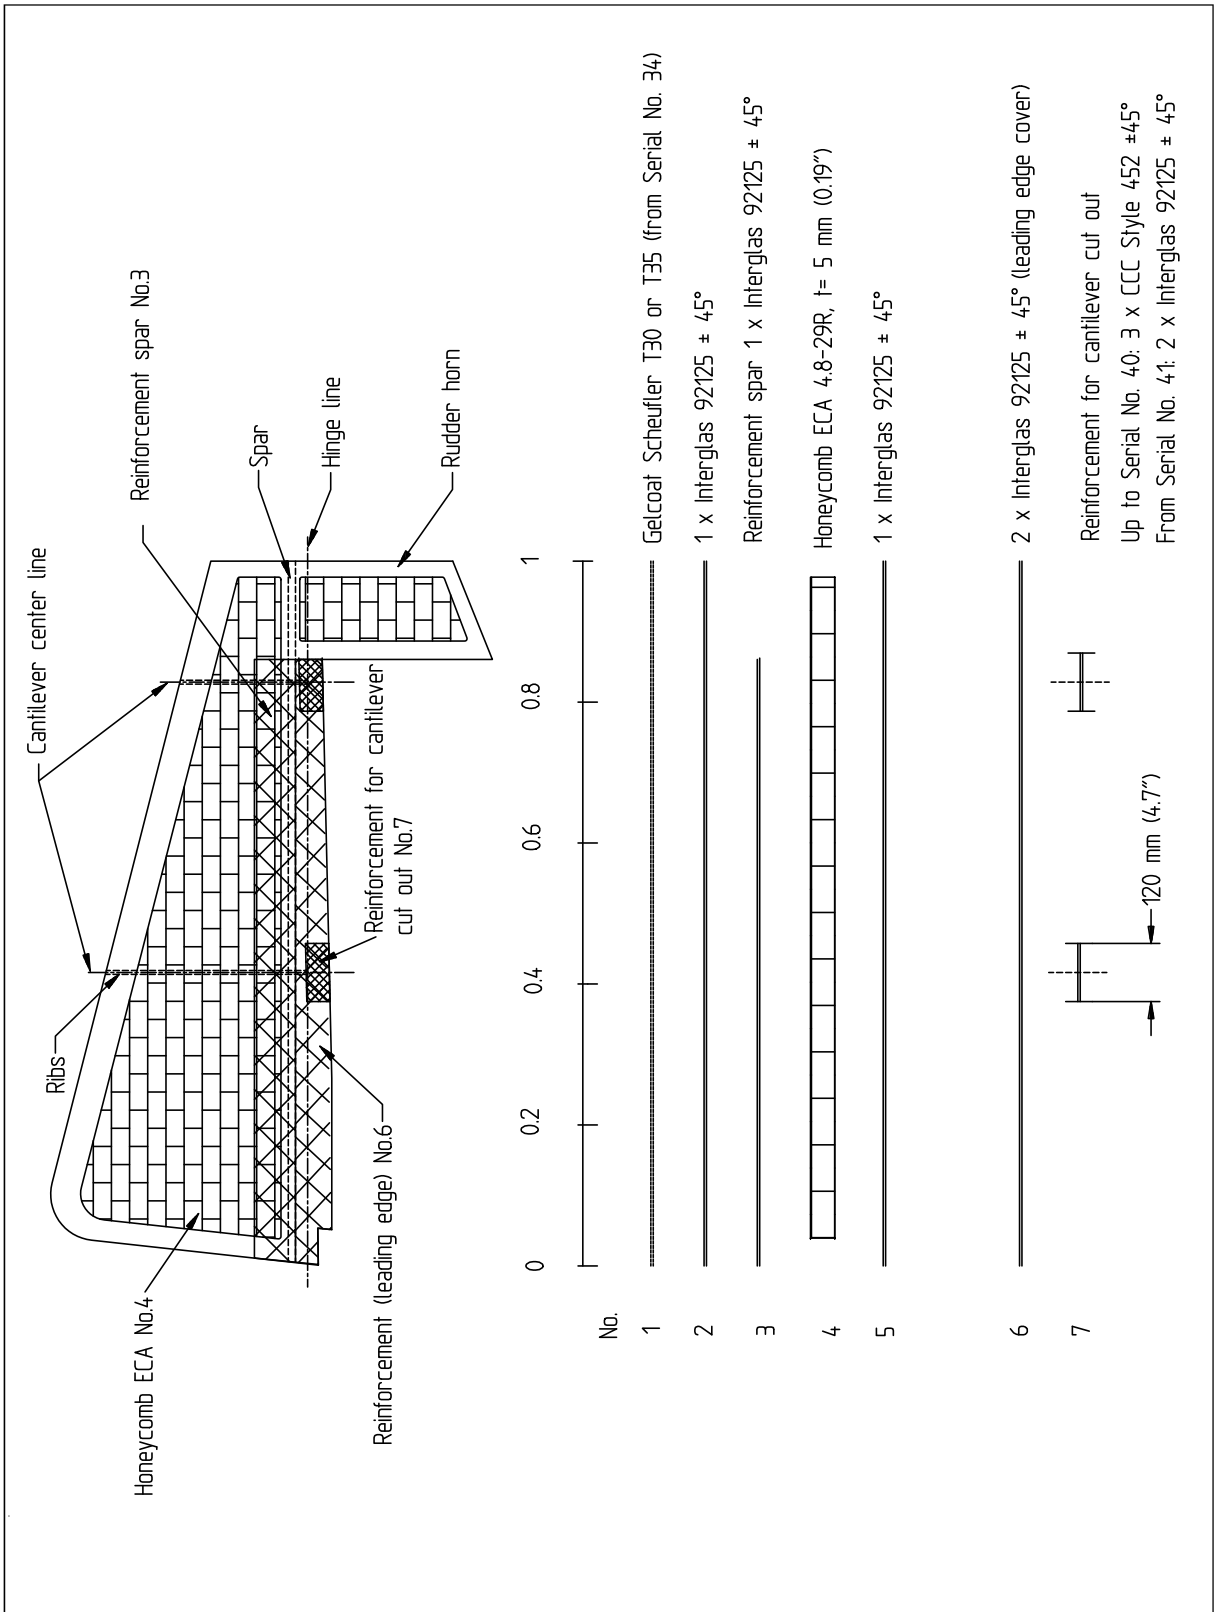

Figure 6
- 4 Remove the two LN 9348-10 stop nuts (2, Figure 6) and DIN 125 M10 washers of the front main bolts.
- 5 Remove the rear LN 9037-10054 (up to SN 93) or LN 9348-10065 (from SN 94) main bolt (3) with the DIN 125 M10 washers and the LN 9348-10 stop nut.
- 2 Slide the auxiliary spar attachment sheet (1, Figure 6) of the vertical stabilizer from the rear over the preinstalled horizontal stabilizer front spar bolts and install the DIN 125 M10 washers and LN 9348-10 stop nuts (2).
- 3 Insert the LN 9037-10054 (up to SN 93) or LN 9348-10065 (from SN 94) main bolt (3) to the main spar from rear to front. Use LN 9348-10 stop nuts and DIN 125 M10 washers.